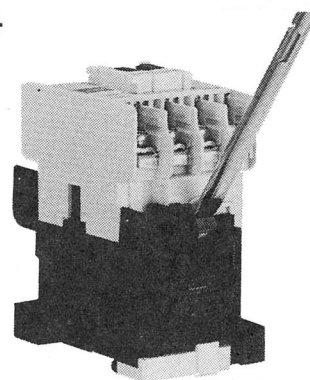

Fig. 1
For the S-N10 to N12(CX), N18(CX), N28(CX) and SR-N4(CX), N38(CX) and N48(CX) load sides, disengage the housing and mounting frame with a flat-tip screwdriver. (Fig. 1)